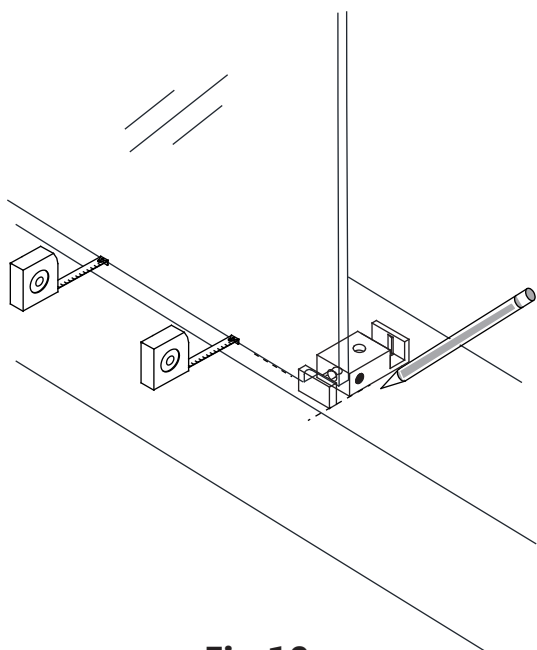

Fig 10a
9. Make sure that your **Stationary glass (#02)** is parallel to the front edge of the threshold and mark it. Slide the **Guide Block (#12)** into the notch of the **Stationary glass (#02)**, and align flush with the edge (Fig 10a). Mark its position and also mark the hole for drilling using a pencil (or center punch.)
See Fig 10a & 10b for details